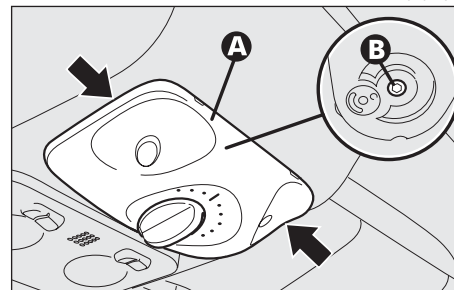

fig. 125
- apply leverage in the points shown by the arrows and remove the plate (**A-fig. 125**);